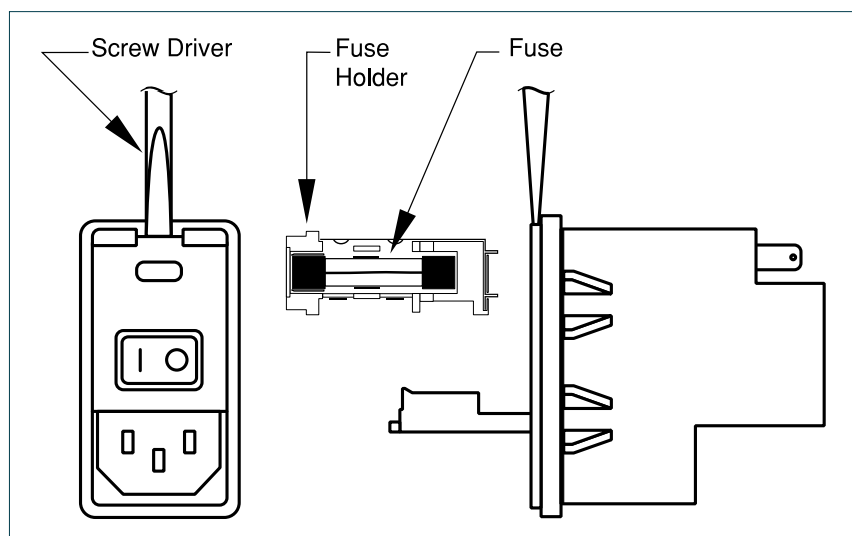

Figure 3. Fuse Replacement
6. Fuse Replacement. Turn off power, remove power cord from power module. Use straight blade screw driver, pry open access door. Remove fuse holder, remove fuse(s) from holder. Replace fuse(s) and fuse holder. For continued fire protection, replace fuse only with 250 V fuse of the specified type and rating. (3 AG 0.75 AMP SLO-BLO) (See Figure 3.)